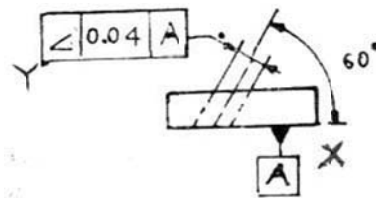

Fig. 2
Q.2 a) Fig 2 shows F.V. and partial left hand side view and auxiliary view of an object.